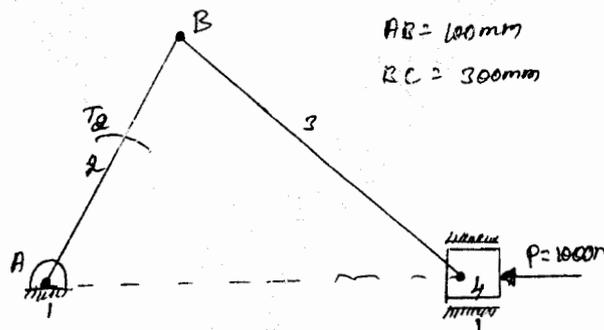

Fig. Q1 (b)
b. A slider crank mechanism is shown in Fig. Q1(b). The force applied to the piston is 1000N when the crank is at  $60^\circ$  from IDC, calculate the driving torque  $T_2$ . (10 Marks)